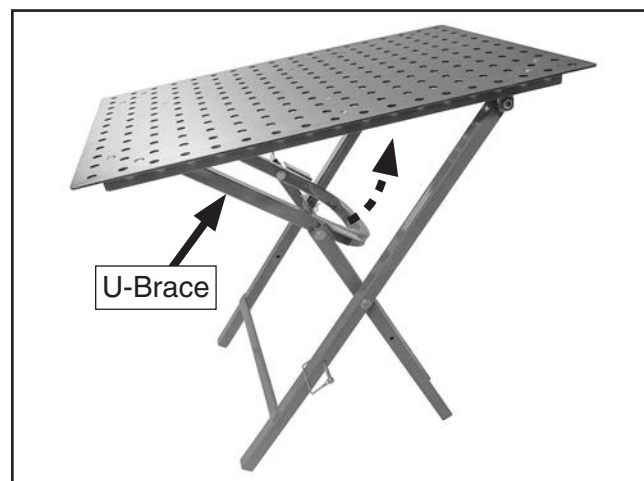

Figure 6. Lifting U-brace to fold table.
1. Lift U-brace toward underside of table, as shown in **Figure 6**.